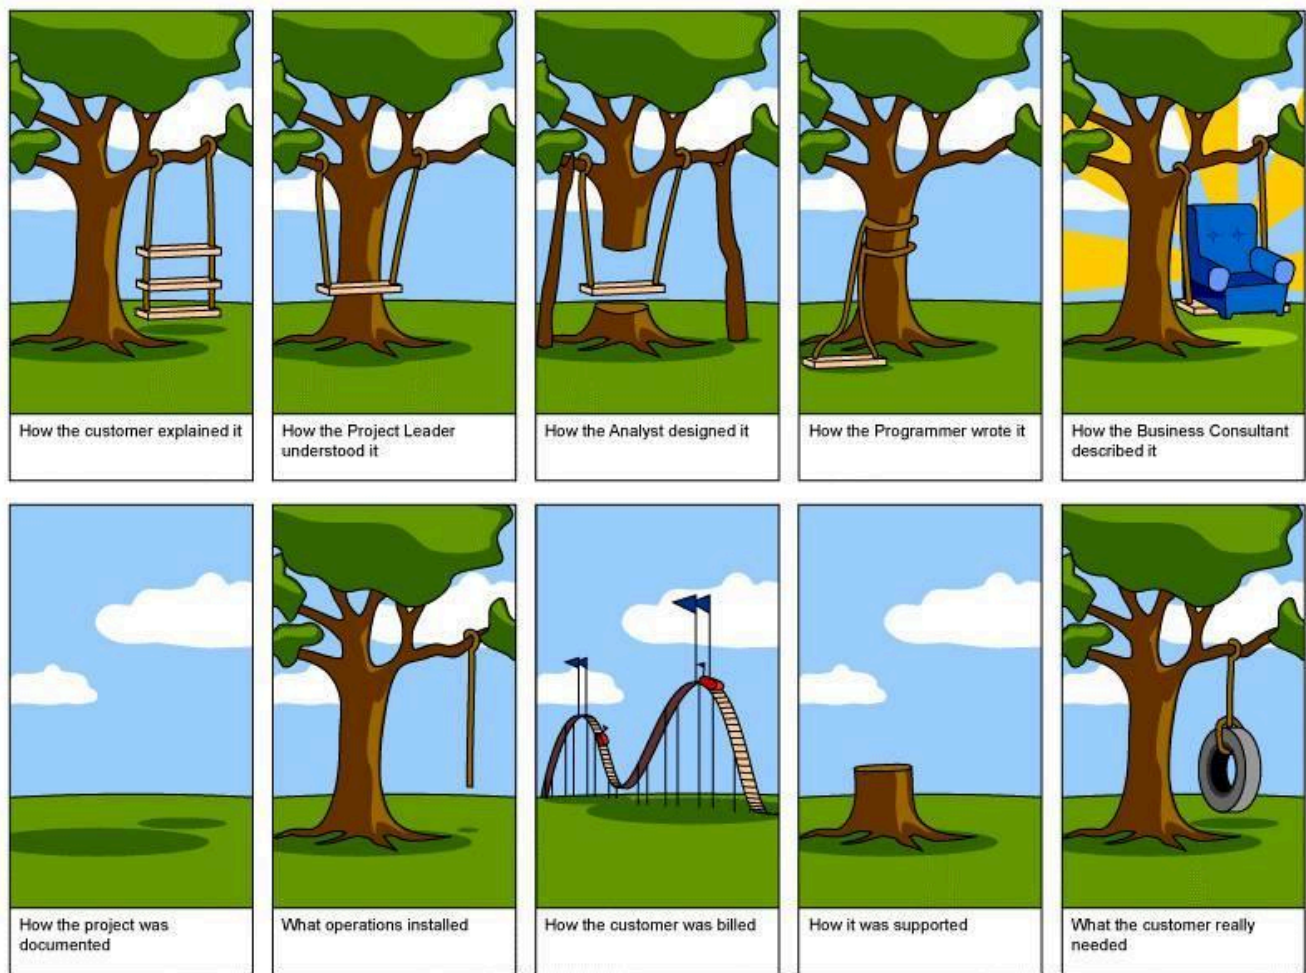

Figure 6.1: Project Management
Often the pressure to get results encourages people to go right into identifying possible solutions without fully understanding the need or what the project is trying to accomplish. This strategy can create a lot of immediate activity, but it also creates significant chances for waste and mistakes if the wrong need is addressed. One of the best ways to gain approval for a project is to clearly identify the project's objectives and describe the need or opportunity for which the project will provide a solution. For most of us, being misunderstood is a common occurrence, something that happens on a daily basis. At the restaurant, the waiter brings us our dinner and we note that the baked potato is filled with sour cream, even though we expressly requested "no sour cream." Projects are filled with misunderstandings between customers and project staff. What the customer ordered (or more accurately what they think they ordered) is often not what they get. The cliché is "I know that's what I said, but it's not what I meant." Figure 6.1 demonstrates the importance of establishing clear objectives.
1. Figure 6.1 Project Management by Andreas Cappell (<https://www.flickr.com/photos/cappellmeister/5921913/>) used under CC-BY-NC-SA (<https://creativecommons.org/licenses/by-nc-sa/2.0/>)